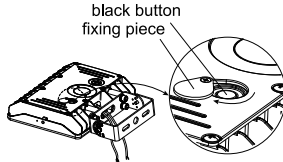

Figure 29
Step 2: Light up the lamp, push aside the fixing piece to show the black button, and adjust the color temperature by pressing the black button(Figure 29);